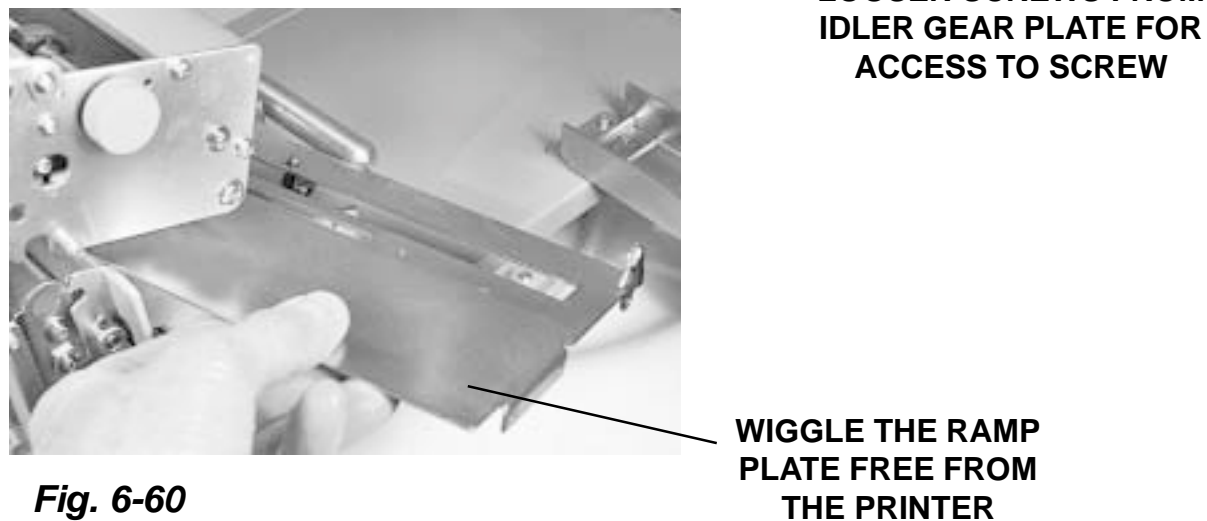

Fig. 6-60
7.	Carefully wiggle the ramp plate free from the ramp frame and the printer. Fig. 6-60